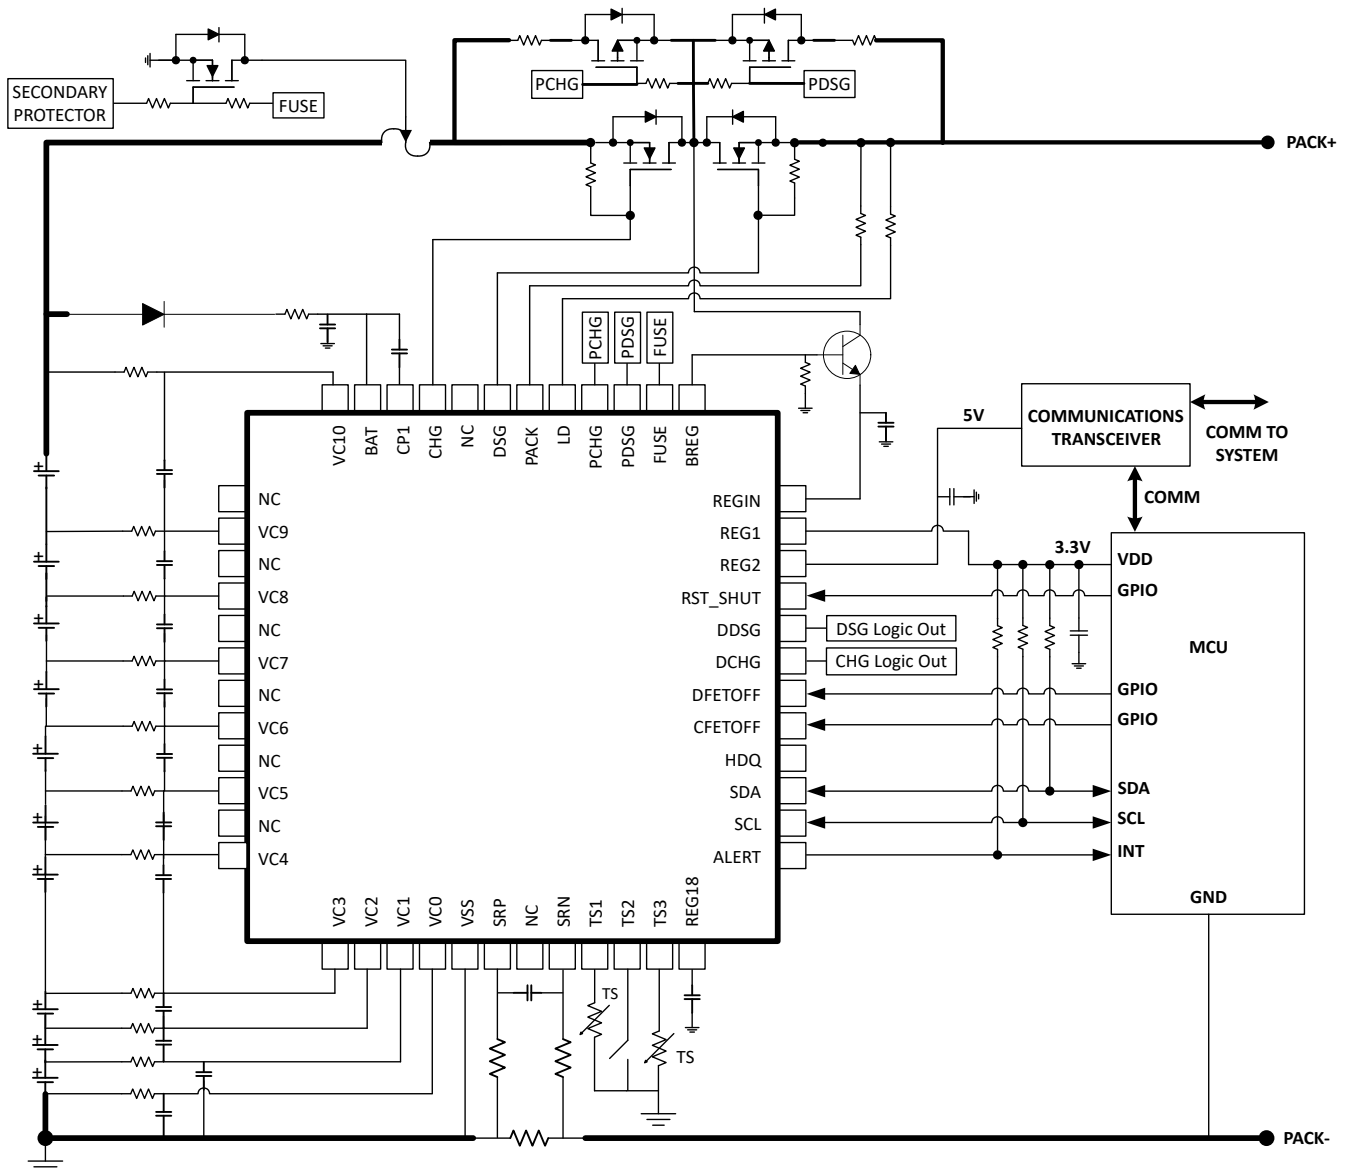

图 16-1. BQ76942 10-Series Cell Typical Implementation (Simplified Schematic)
- Power dissipation, which can be a factor of the RDS(ON) rating of the FET, the FET package, and the PCB design.
- The overdrive level of the BQ76942 device charge pump should be selected based on RDS(ON) requirements for the protection FETs and their voltage handling requirements. If the FETs are selected with a maximum gate-to-source voltage of 15 V, then the 11-V overdrive mode within the BQ76942 device can be used. If the FETs are not specified to withstand this level, or there is a concern over gate leakage current on the FETs, the lower overdrive level of 5.5 V can be selected.
- A diode can optionally be included in the collector circuit of the BJT, in order to avoid reverse current flow from BREG through the base-collector junction of the BJT to PACK+ during a pack short circuit event. This diode can be seen in 图 16-1 at D2.